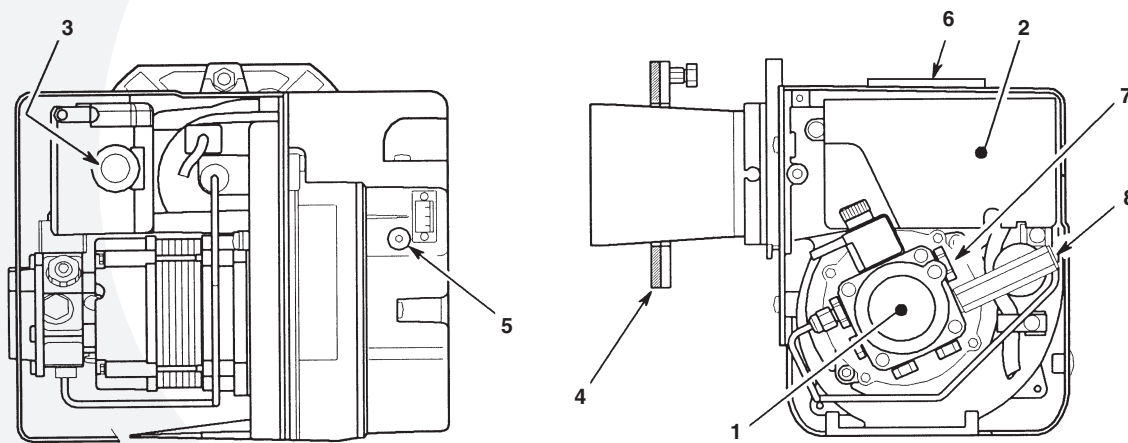

Figure 3-6: Riello RDB burner components
**Remove the factory fitted air inlet spigot adaptor (item 6 in Figure 3-6 from the air intake on the top right hand side of the burner and fit the grey plastic air inlet grille in its place.**